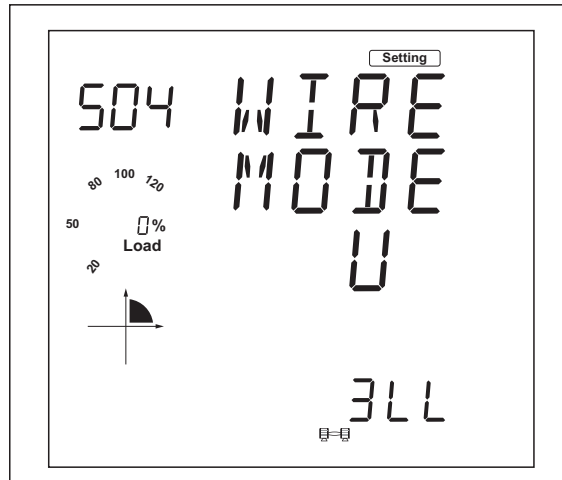

Figure 8: S04: Voltage wiring mode screen
3. Press **P** repeatedly until you see screen S04: Voltage Wiring Mode (WIRE MODE U)(Figure 8 on page 8).